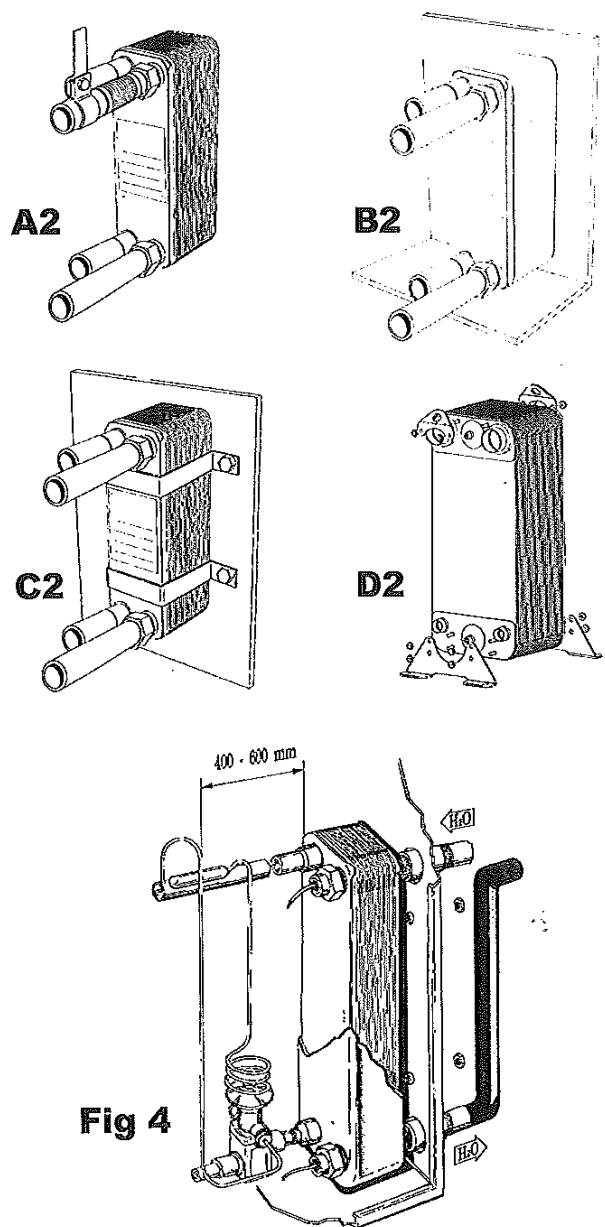

Fig 4
N.B. When used as an evaporator (Figure 4)